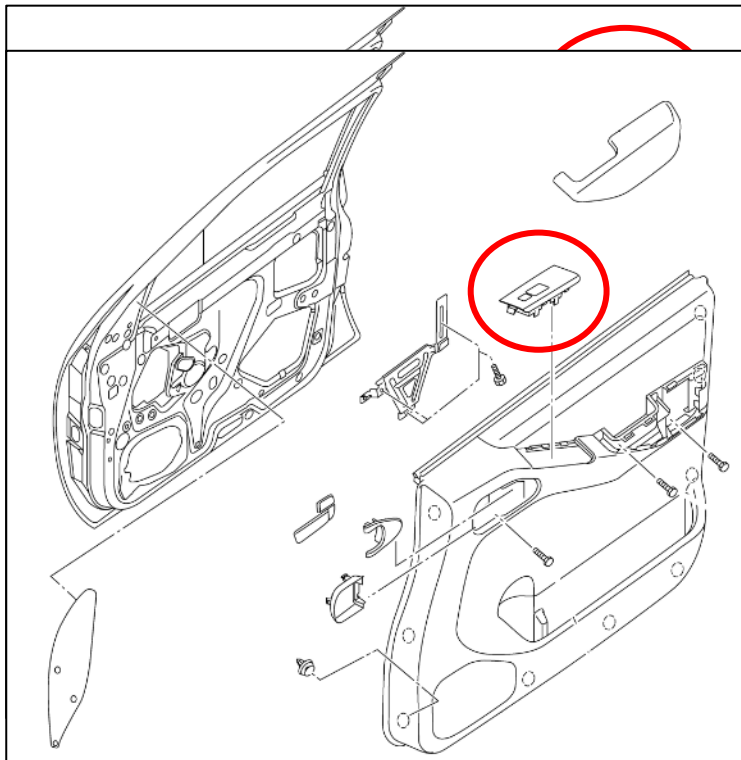

Figure 77
4. Pry up the Door Control Panel with a Trim Removal Tool. *Figure 77.*